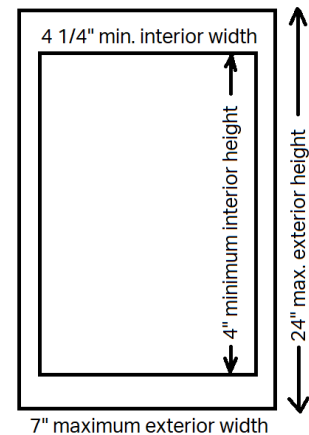
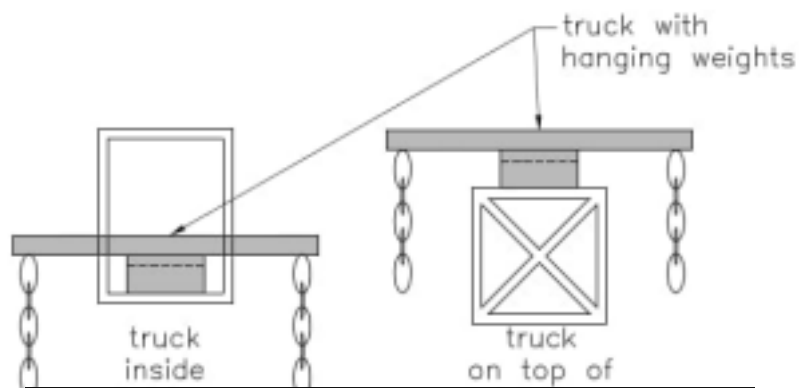

Figure 2: Cross Section of Bridge with Roadway through Bridge
Figure 3: Different Ways to Load the Bridge - Section Views
3. The overall width is limited to 7 inches maximum. The roadway width shall be a minimum of 4 1/4 inches. The roadway is defined as the distance between the sides of the bridge (in the case of a through truss) or the overall width of the bridge when the roadway is on top of the bridge. See Figure 2.
5. The 4 1/4” minimum shown in Figure 2 shows a roadway inside the bridge. The same width rule of 4 1/4” minimum applies if the roadway is on top, which coincides with the minimum width rule for a bridge being 4 1/4”. See Figure 3. 8